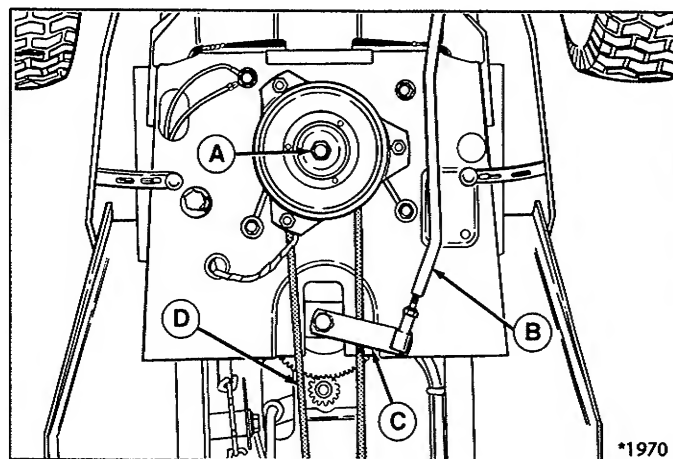

Figure 26.
- b. Remove nut and flat washer securing rear of drag link (B, figure 26). Remove drag link from steering arm (C).
- d. Remove capscrew (A), lockwasher and large flat washer securing electric clutch and drop electric clutch.
- e. Remove belt (D).